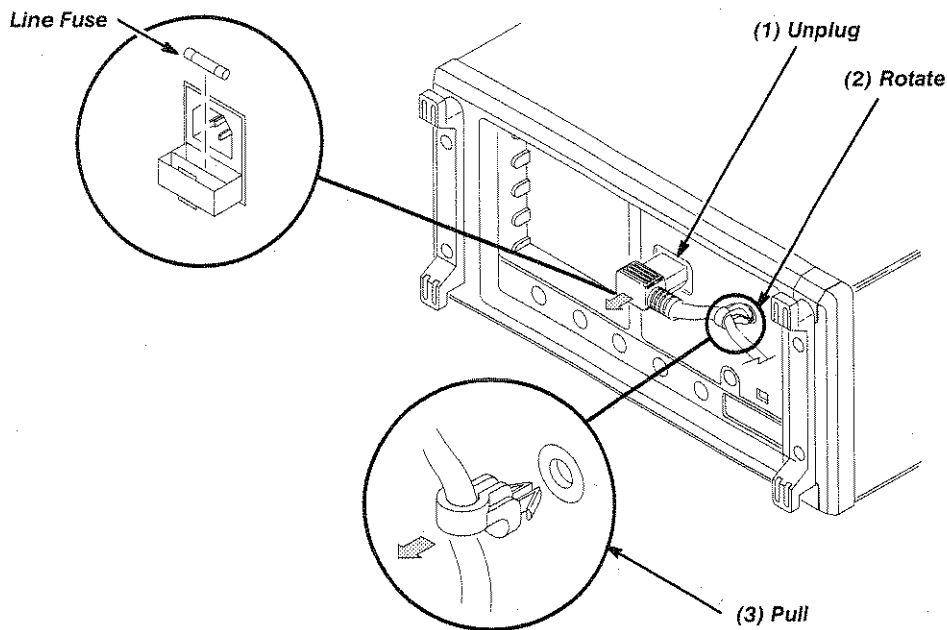

Figure 8-2: Line Fuse and Line Cord Removal
Prepare the oscilloscope by positioning the bottom side down on the work surface and facing the back side toward you. Refer to Figure 8-2.
3. Grasp the end of the line cord and retaining clamp and rotate them 90 degrees counterclockwise (Figure 8-2).
2. Pull out the fuse holder drawer and remove the fuse (Figure 8-2).